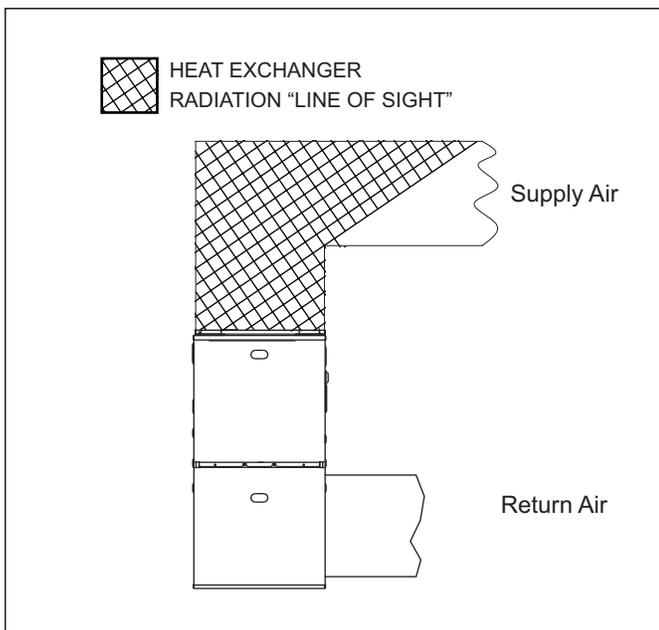

Figure 63 Temperature rise measurement
2. Place thermometers in the return and supply ducts as close to the furnace as possible. Thermometers must not be influenced by radiant heat by being able to "see" the primary heat exchanger (see Figure 63).